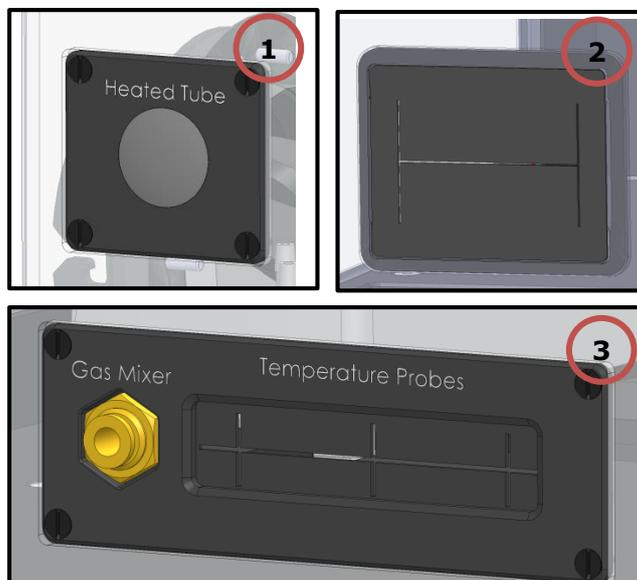

Figure 72. Standard components on the enclosure panels.
- J. On the all Okolab enclosures there are some standard components which allow simplifying the layout of cables and pipes in your experimental environment. The Figure 72 shows for example an opening that you can find on the back panels, Image 2, useful for the passage of the electrical cables of the microscope or of the other components that you use for your experimental apparatus. In Image 3 of Figure 72 there are the connector for the input of the gas coming from Gas Mixer and the opening where you can pass the temperature sensors cables (the fine gauge thermocouple and the NTC thermistor). The Image 1 shows the Heated Tube Input (a component of the HM-ACTIVE), this is tapped in the configuration H201-T-UNIT-BL with HM-VF as humidifier.